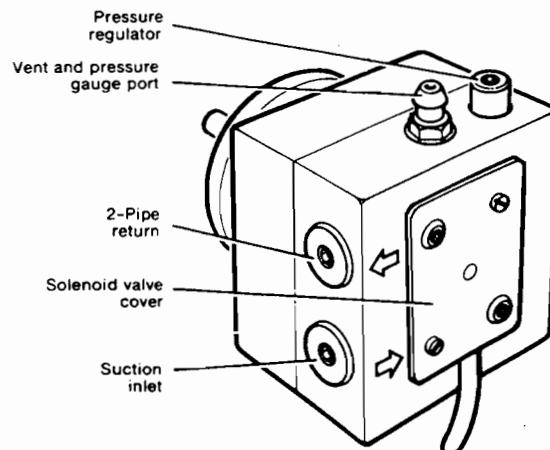

Fig. 6
- 7.1. Fit a pressure gauge to the oil pump. See Fig. 6.